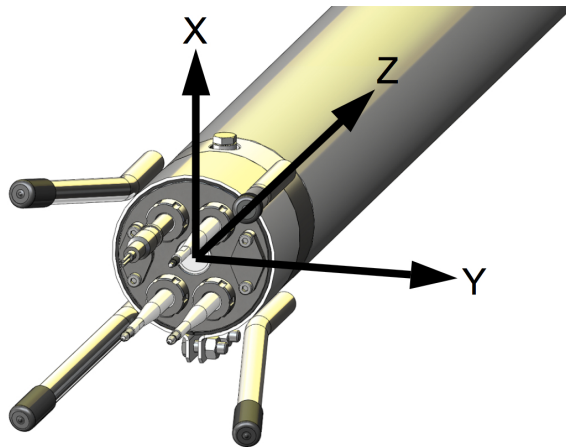
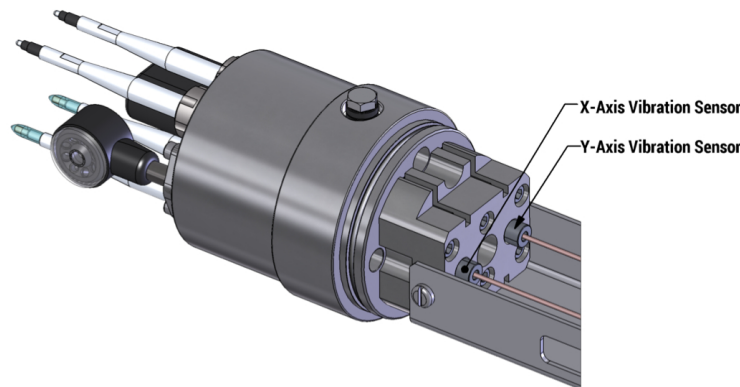

Figure 2: Coordinate System
Figure 4: Vibration Sensors
The coordinate system of the VMP-250-IR is as follows (Figure 2):
- x-axis: It is directed through the threaded hole which is used for the “ON” magnet (Figure 2). Nominally, horizontal on a vertical profiler.
Two vibration sensors are installed on the frame mounting block that is located inside the instrument (Figure 4). Each vibration sensor is a piezo-accelerometer that is fixed in position and cannot be adjusted or removed. The vibration sensors are alternating current (AC) sensors and are treated like shear probe channels. Their primary purpose is to sense the vibrations of the instrument in the x- and y-directions (Figure 2). Common-mode vibrations measured by both the vibration sensors and the shear probes (such as vibrations induced from the instrument) can be removed from the shear signals during post-processing of the data.